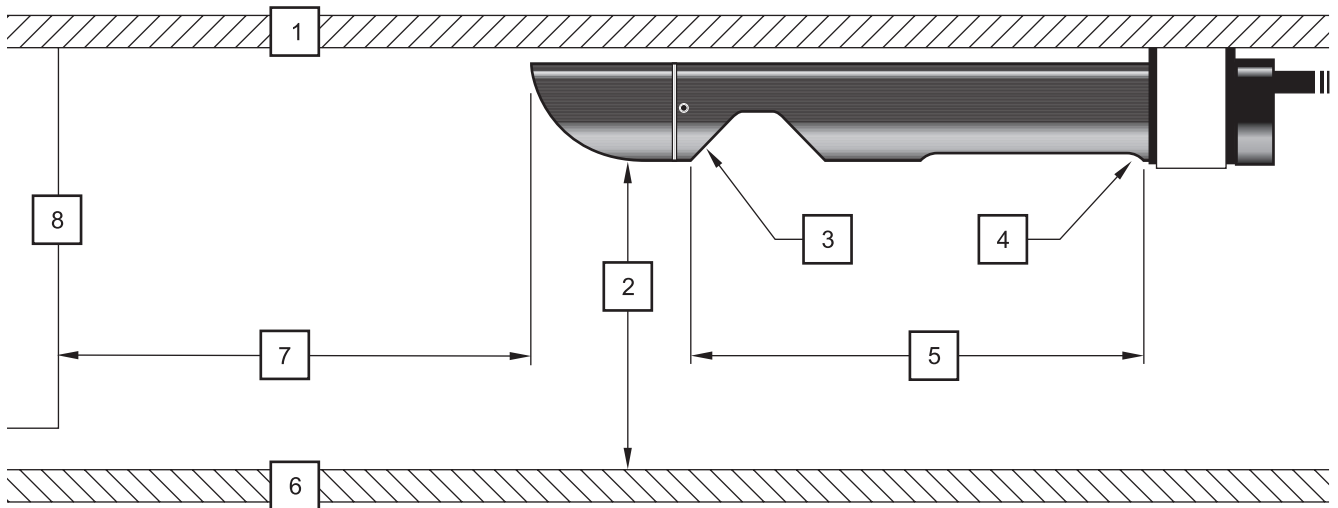

Figure 28 Side View of In-Pipe
- Mount the sensor 46 cm (18 in.) away from obstructions located in front of the in-pipe sensor to prevent inaccurate liquid level readings (Figure 28).